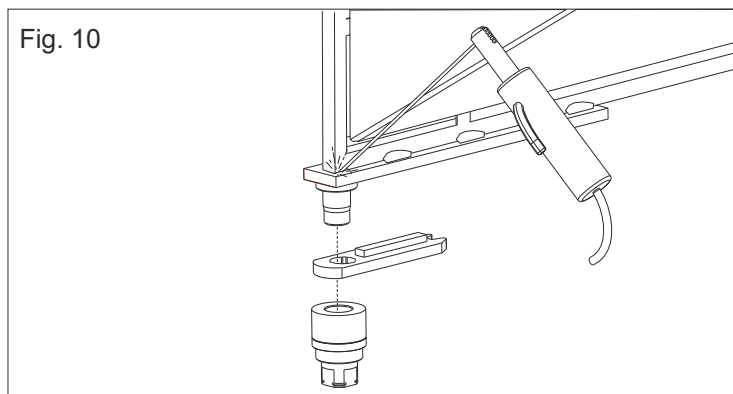

Fig. 10
3.2. Weld with care the leaf device to the leaf of the gate realizing a tract fixation of ca. 3-4 cm along the surface of the contact, avoiding the welding next to the threaded holes, furthermore it is necessary to respect the perpendicularity to the axe of rotation (Fig. 10)